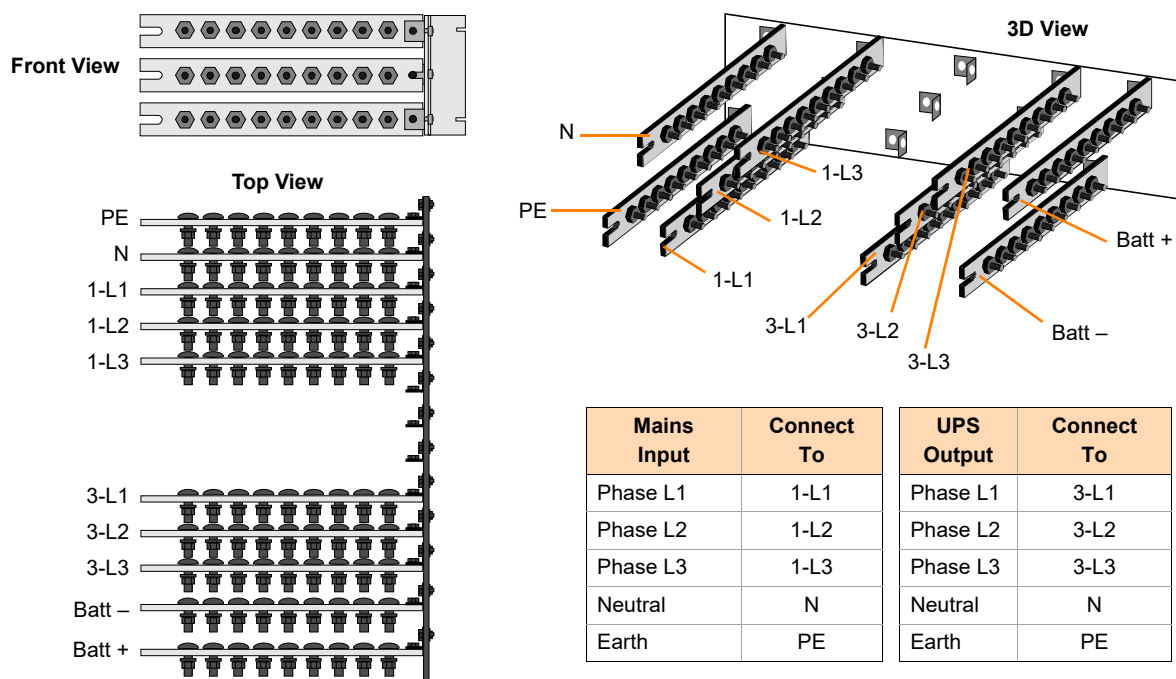
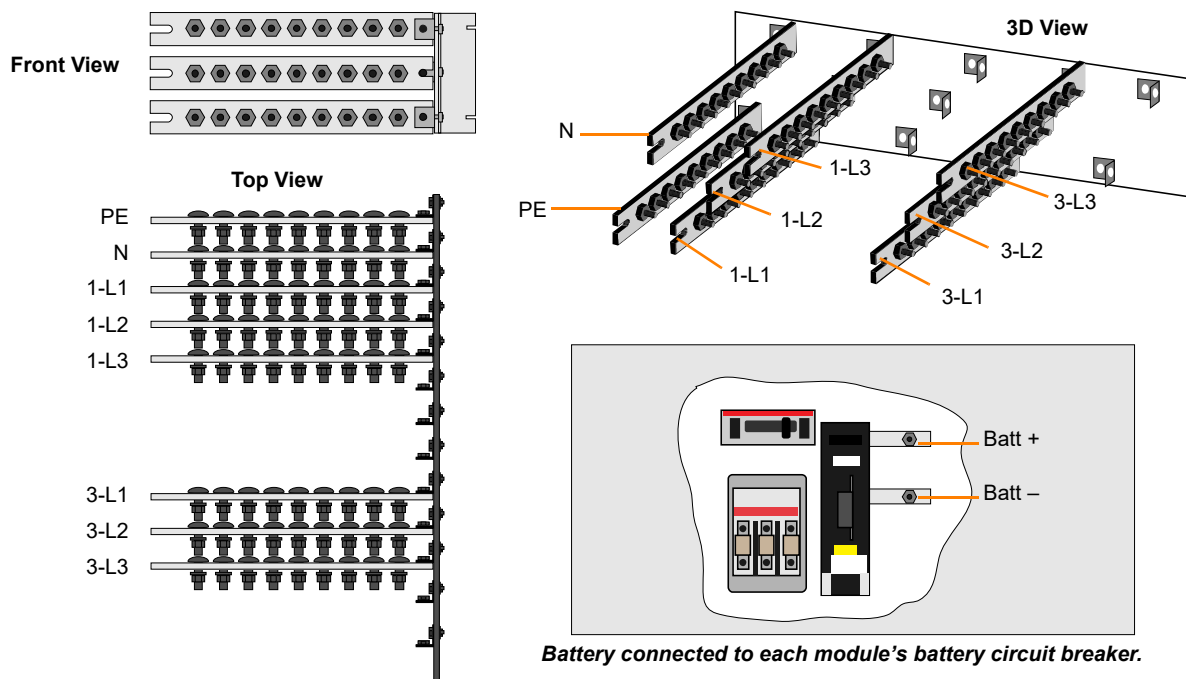
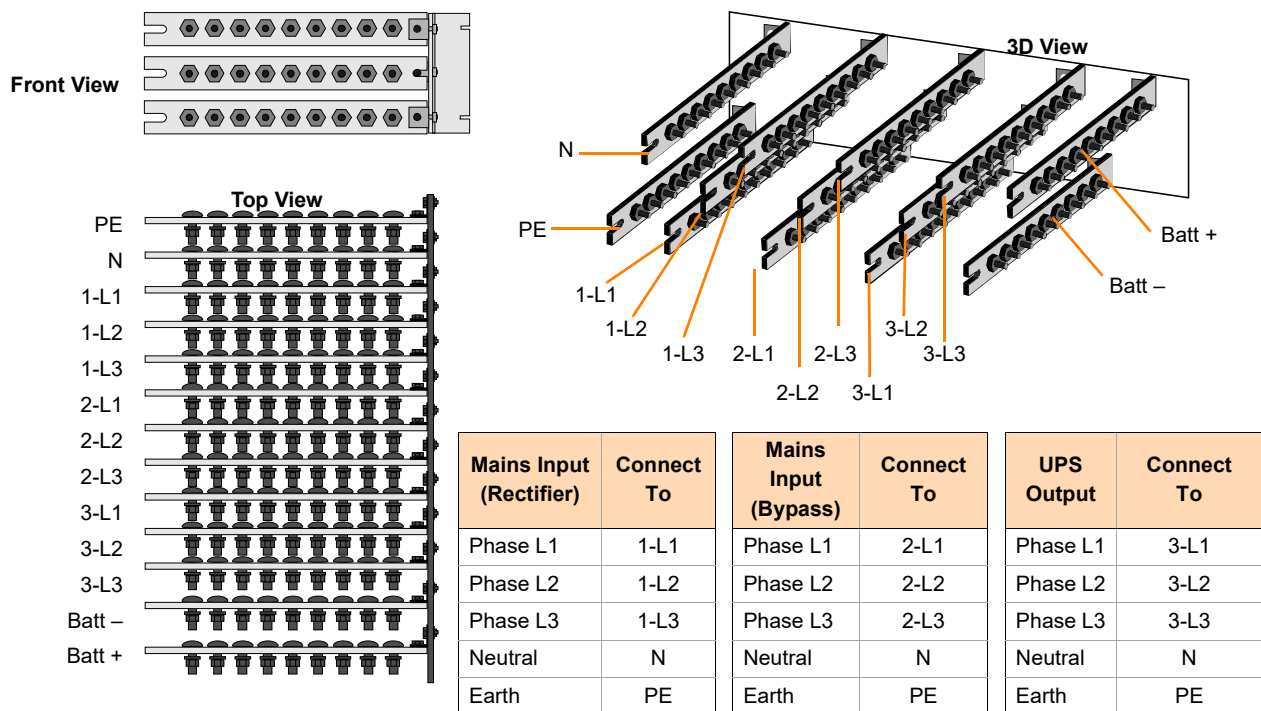
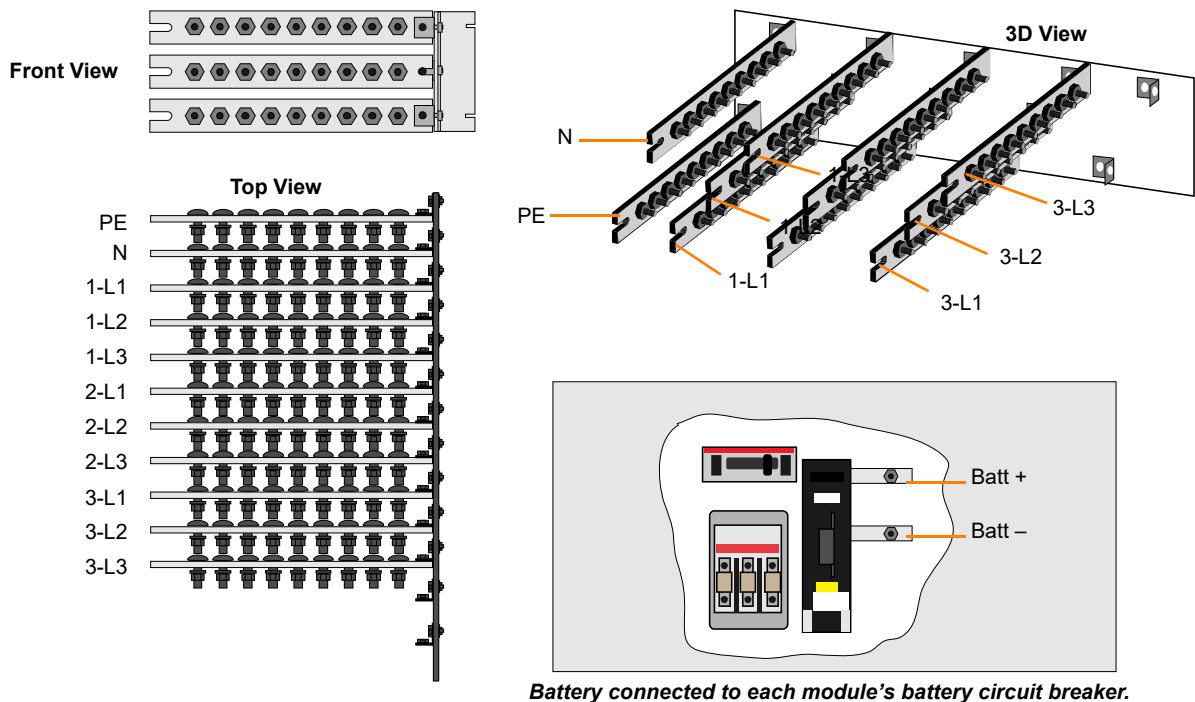

Figure 4.12 Single input with common battery
Figure 4.13 Single input with separate batteries
Figure 4.14 Dual input with common battery
Figure 4.15 Dual input with separate batteries
2. Connect the earth cable from the mains distribution board(s) to the protective earth (PE) busbar, as shown in Figure 4.12 to Figure 4.15.
3. Refer to the schematic drawing and connection table in Figure 4.12 (common battery system) or Figure 4.13 (separate battery system).
6. Refer to the schematic drawing and connection table in Figure 4.14 (common battery system) or Figure 4.15 (separate battery system).